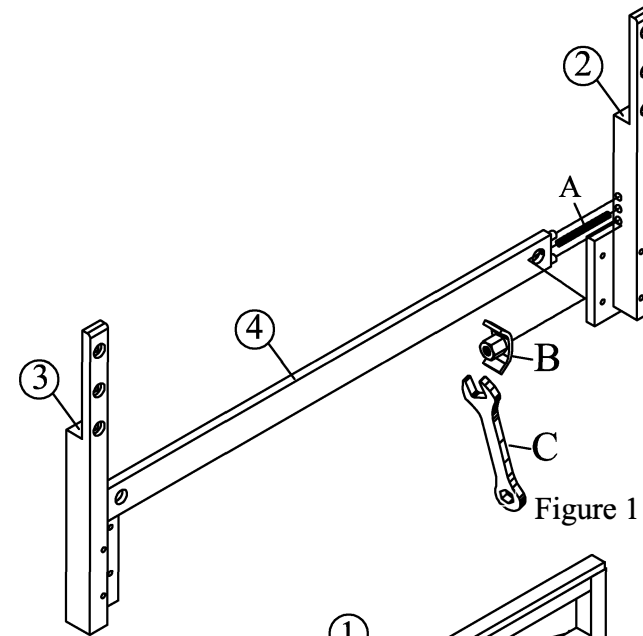

Figure 1
- STEP 1. Insert the two threaded bolt (A) into the headboard leg left (2) and right (3). Tighten by hand only.
- STEP 2. Insert the stretcher (4) into the threaded bolts protruding from the headboard leg (2), (3) use dowel as guide. Attach curve washer nuts (B) onto the threads and secure by hand at first. Tighten evenly using the spanner wrench (C). See Figure 1
**STEP 1.** Screw the bolts (A) into the two threaded holes that are at the bottom of the posts of bolt the headboard and the footboard. Slide the bed rail onto the two bolts (A) on one of the bed posts until the bolts (A) are visible through the holes on the inside of the bed rail. See Figure 1.
**STEP 2.** Slide a curve washer nuts (B) onto the bolts (A) through the holes in the bed rail. Tighten all the curve washer nuts (B), using the spanner wrench (C). See Figure 1.